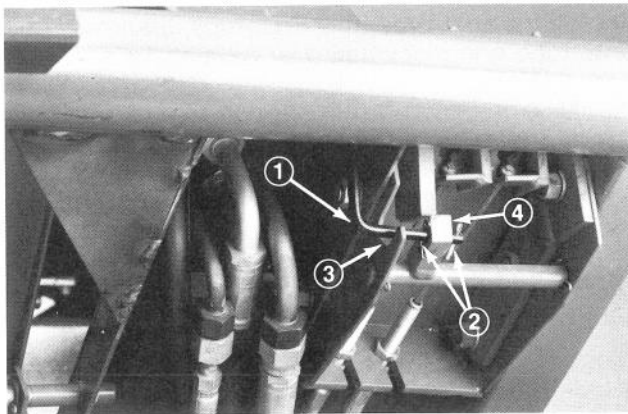

Figure 2
3. Secure valve to bracket with (4) locknuts (5/16-24).
5. Install cotter pin (3/32 x 1/2 in. — 2.4 x 13 mm) through hole at top of parking brake rod. Install another cotter pin (3/32 x 1/2 in. — 2.4 x 13 mm) through inside hole at L-shaped end of brake rod (Fig. 2).
7. Slide top of rod up the steering tower and bottom of rod between cutout in brake mount and through hole in parking brake latch (Fig. 2).